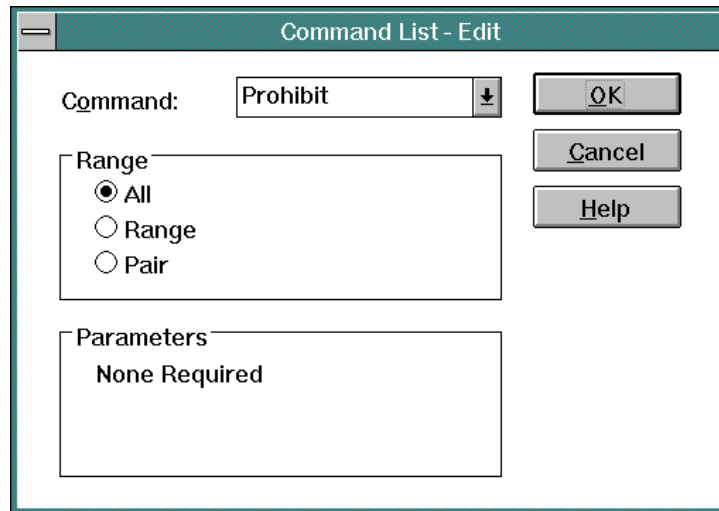

Figure 84. *Command List - Edit* Dialog Box
- **Add Command** - When the *Add Command* button is clicked, the *Command List - Edit* dialog box appears (Figure 84).
- **Insert Command** - When a list item is selected (highlighted) and the *Insert Command* button is clicked, the *Command List - Edit* dialog box opens (Figure 84). Dialog box functions are identical to functions described for the *Add Command* button. However, the new command is inserted *before* the selected list item.
- **Modify Command** - When a list item is selected (highlighted) and the *Modify Command* button is clicked, the *Command List - Edit* dialog box opens (Figure 84). Dialog box functions are identical to functions described for the *Add Command* button.